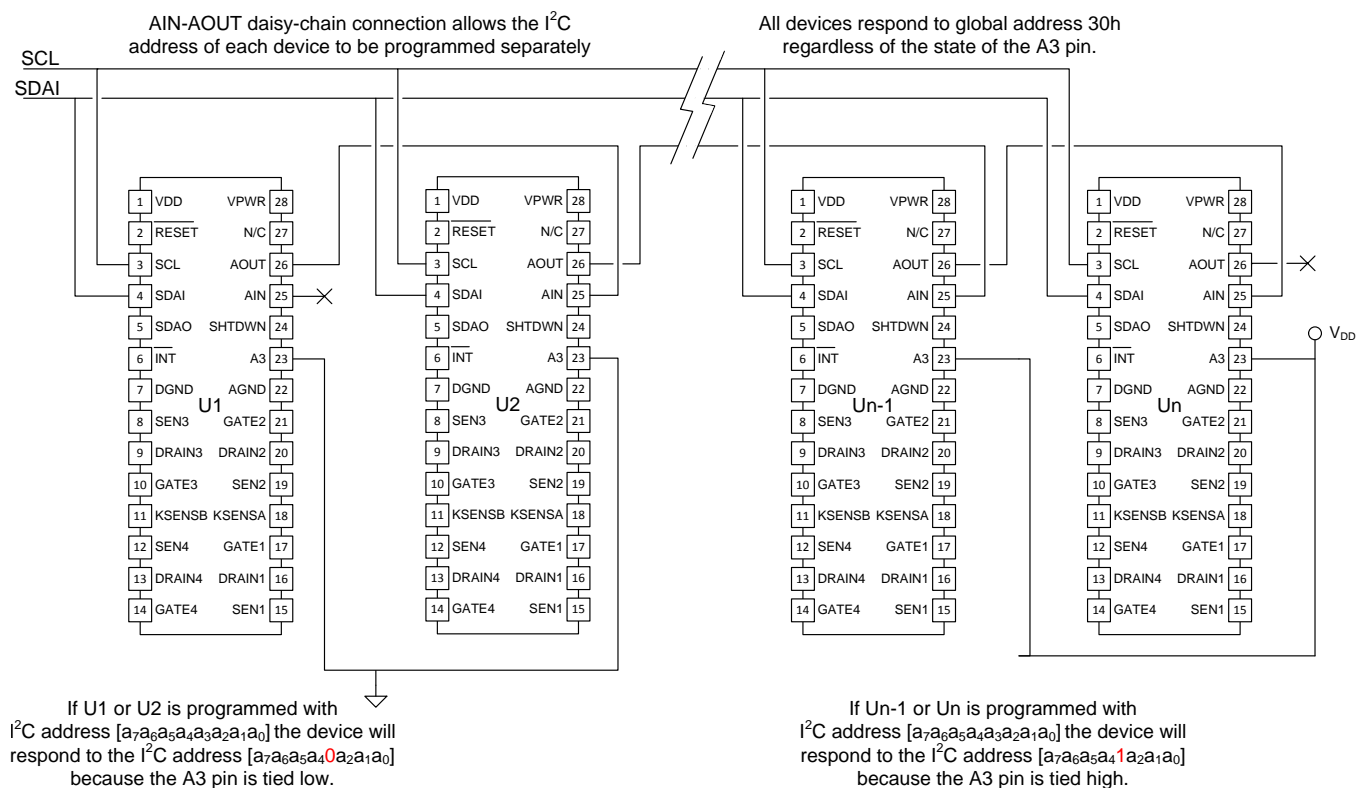

Figure 41. I²C Slave Address and AUTO Bit Programming Circuit
As shown in Figure 41, the initial I²C address programming access is established by a local daisy chain *chip select* connection between multiple TPS23861 devices. The AIN pin plays the role of a “moving chip select” during address programming.
- The first TPS23861 device being selected is the only one having its AIN pin at logic high level (U1 in Figure 41).